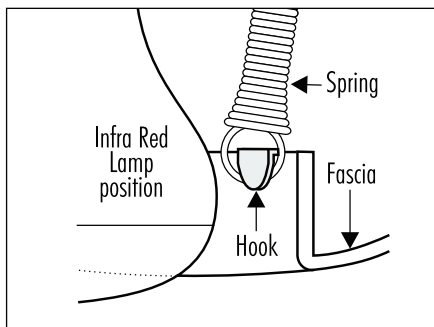

Fig. 11 – 11341 & 11344
1. Model 11341, 11344 fit fascia into position and hook coil-spring onto fascia as per Fig. 11. Model 12343 has a snap fit fascia, however the lamps and centre globe must be fitted in this model prior to the fascia. The legs of the lamp surround must rest freely on the ceiling. A clearance of approximately 3-5 mm should exist between the ceiling and outer rim of surround.